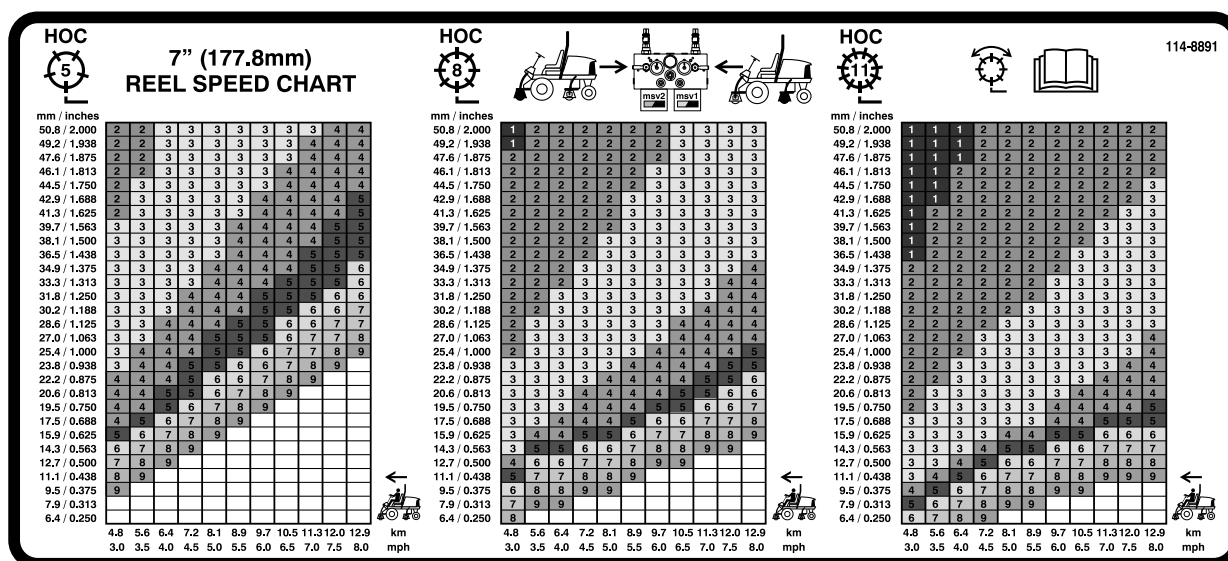

Figure 39
3. Using the appropriate graph on decal 110–0996 (Figure 39) determine the proper reel speed setting.